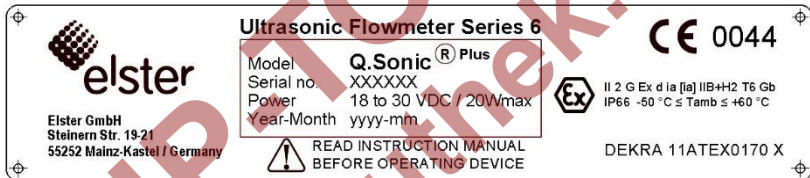
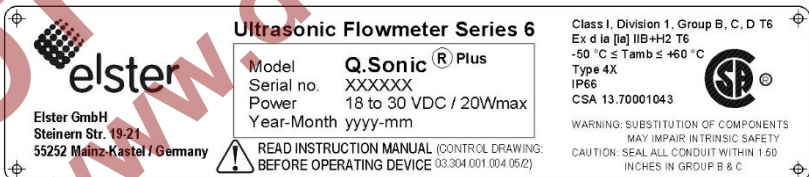

Figure 5-6: Example of an ATEX Label
Figure 5-9: Example of a CSA Label
- Refer to the type plate on the SPU for the applicable hazardous area approval. This could be according to ATEX, IECEx, FM or CSA. ⇒ Please refer to Figure 5-6 to Figure 5-9 for type plate examples for a Q.Sonic^{plus} meter.